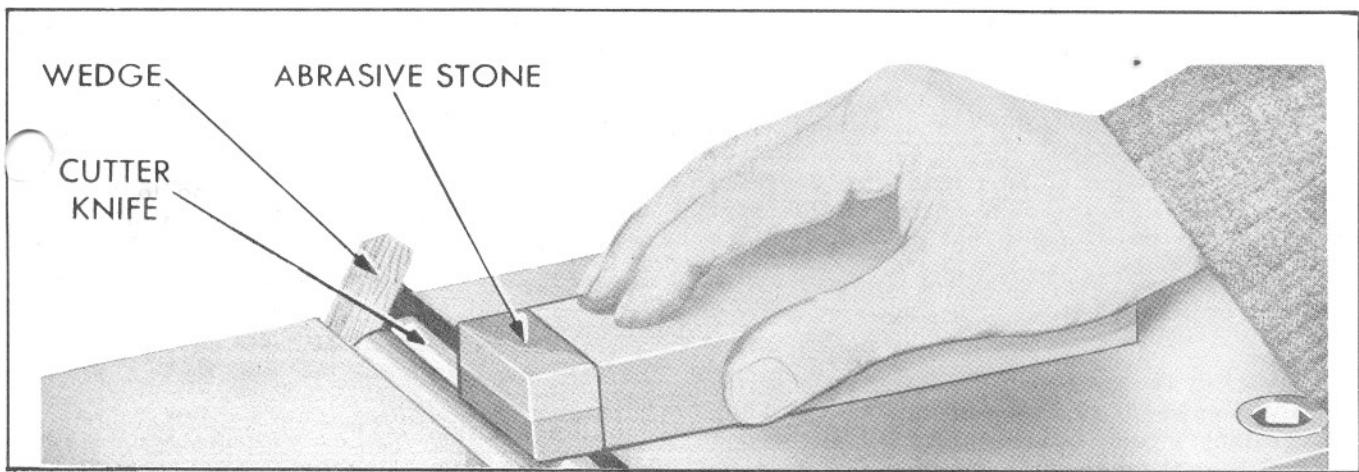

FIGURE 3
2. Assemble the  $\frac{1}{2}$  inch hexagon jam nut, Item 84, onto the fence support rod, Item 83, and thread the rod into the tapped hole in the pulley side of the front table, Item 5, until rod is approximately  $1\frac{1}{8}$  inches from the table (See Figure 3) in a vertical position. Lock the fence support rod in position by running jam nut tight against table.
5. Place washers, Items 82, 80 and 79, fence support, Item 81, and fence support knob, Item 79, in position as shown in Figure 3.